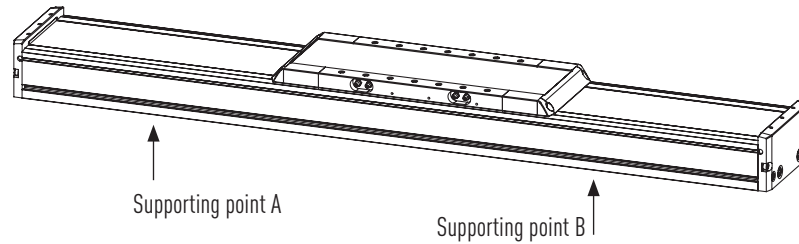

Fig. 5.1 Supporting points A and B for hoisting and transporting
- ▶ To transport the linear axis, hoist it at the points designated A and B (see Fig. 5.1). The points A and B should be a quarter of the axis' overall length from each of its ends.